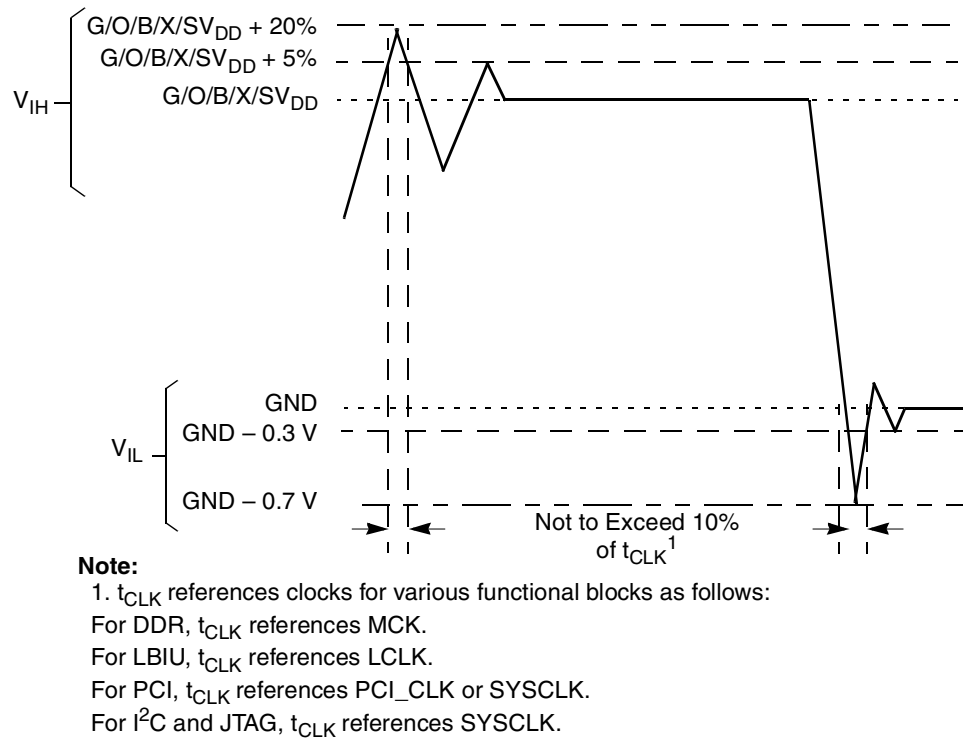

Figure 2. Overshoot/Undershoot Voltage for M/B/OV_{IN}
- ⁵ **Caution:** MV_{IN} must meet the overshoot/undershoot requirements for GV_{DD} as shown in Figure 2.
- ⁶ **Caution:** OV_{IN} must meet the overshoot/undershoot requirements for OV_{DD} as shown in Figure 2.
- ⁷ Timing limitations for (M, B, O) V_{IN} and MV_{REF} during regular run time is provided in Figure 2.
Figure 2 shows the undershoot and overshoot voltages at the interfaces of the MPC8610.